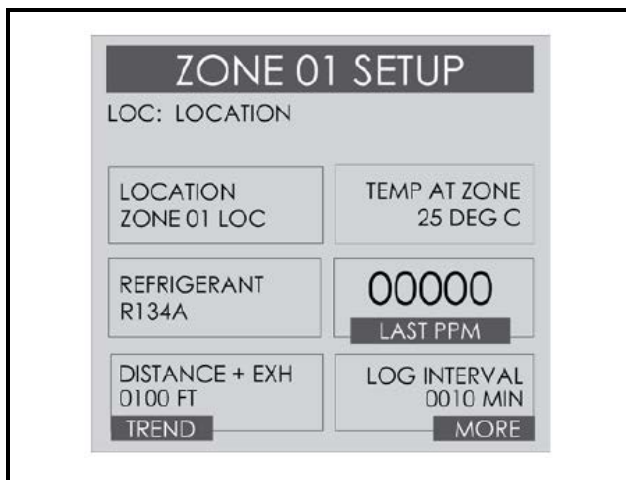

Figure 7-1 - Zone Setup Screen 1
The RLDS retains a data log of 100 measurements for each zone. The log interval is the number of minutes from 1 to 1440 between each log point. This parameter can be changed from *Zone Setup screen 1* (*Figure 7-1*).
Select the **MORE** option at the bottom right side of the screen (*Figure 7-1*) to continue to the next screen containing more options. This screen displays the peak PPM value in the upper left side of the screen.
- **SETUP** - using the right arrow key, navigate to the *Zone Setup screen 1* (**Figure 7-1**). This enables review of the zone setup parameters and accesses the *Trend screen*.